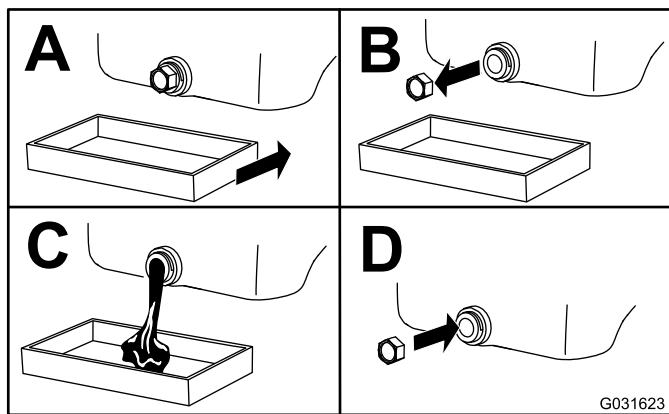

Figure 50
3. Change the engine oil as shown in Figure 50.